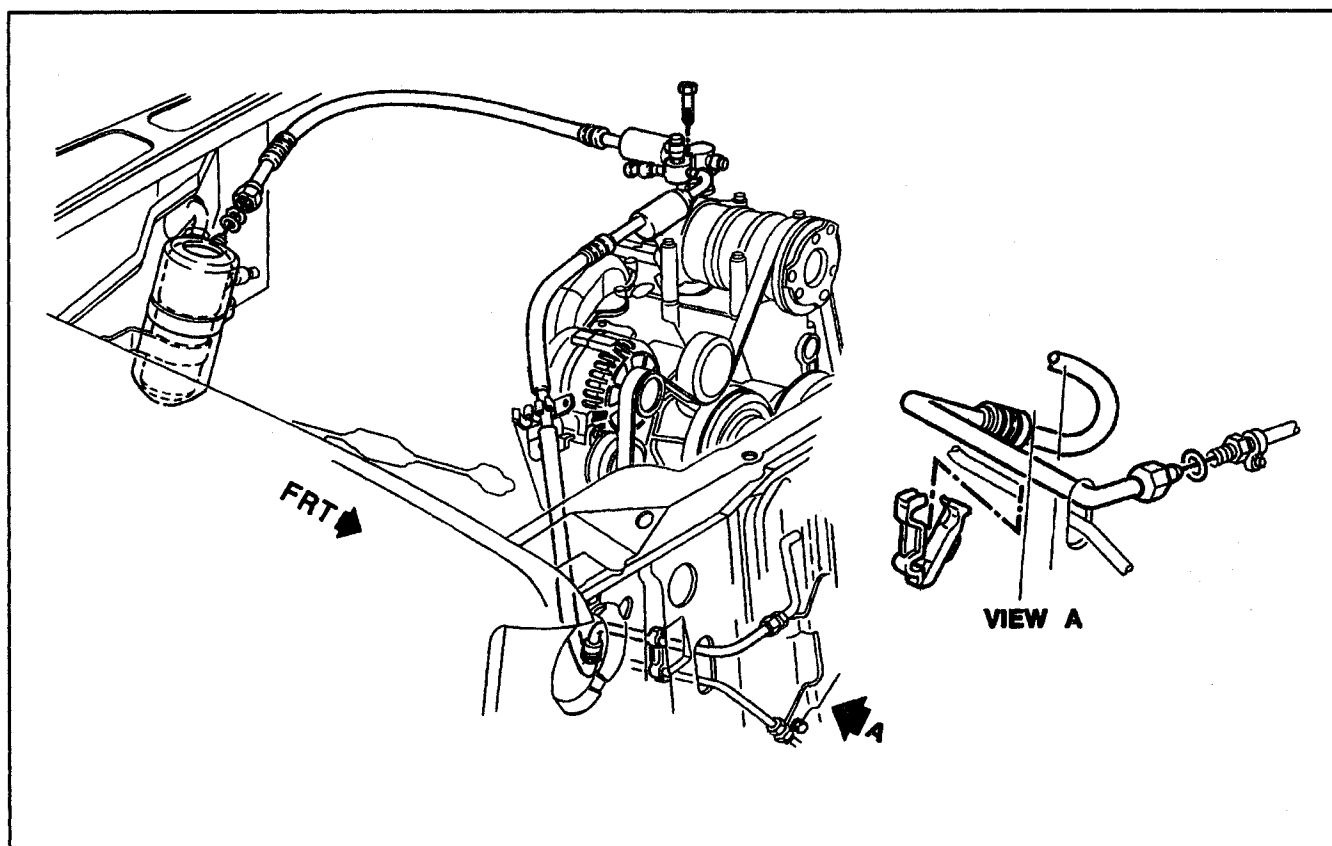

Figure 30—Compressor and Condenser Hose Assembly
- Pickup/Extended Cab Models (4.3L, 5.0L, 5.7L, and 7.4L Engines), Figure 30.
- Suburban/Crew Cab Models (7.4L Engines w/o Aux. Heater or A/C), Figure 30.
↔ Remove or Disconnect (Figures 30 through 32)
↔ Install or Connect (Figures 30 through 32)